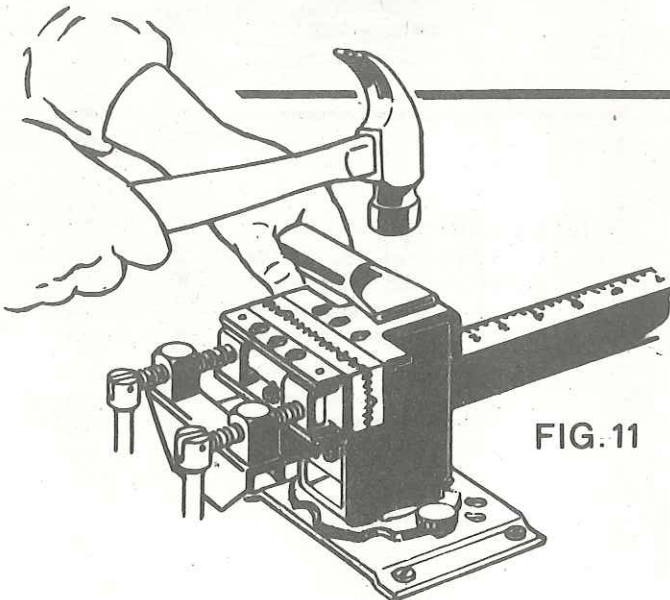

FIG. 11
4. The anvil section of the rear jaw provides a smooth surface upon which bent nails can be straightened, pipe ends and solid rods flattened, etc. (See Figure 11).